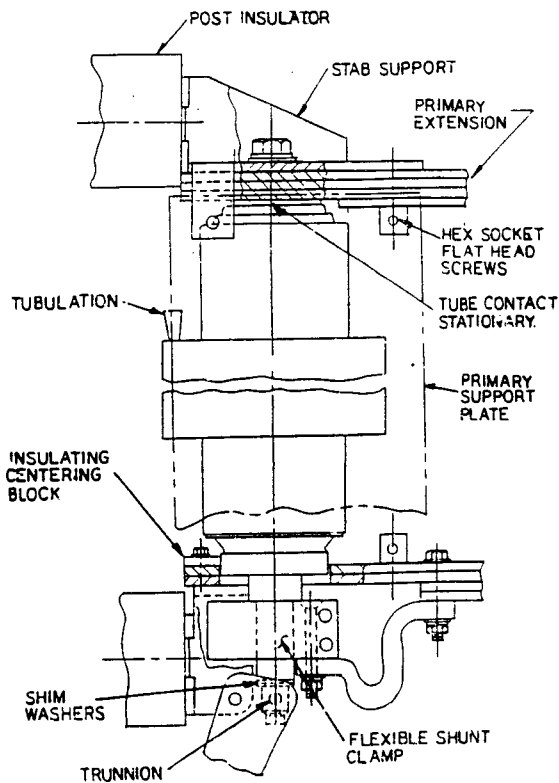

Figure 49: VS10028 2000 and 3000 Amp.
- 14.4 VS10028 Vacuum Interrupter Applied in Breakers Rated 2000 and 3000 Amperes (**Figure 49**).